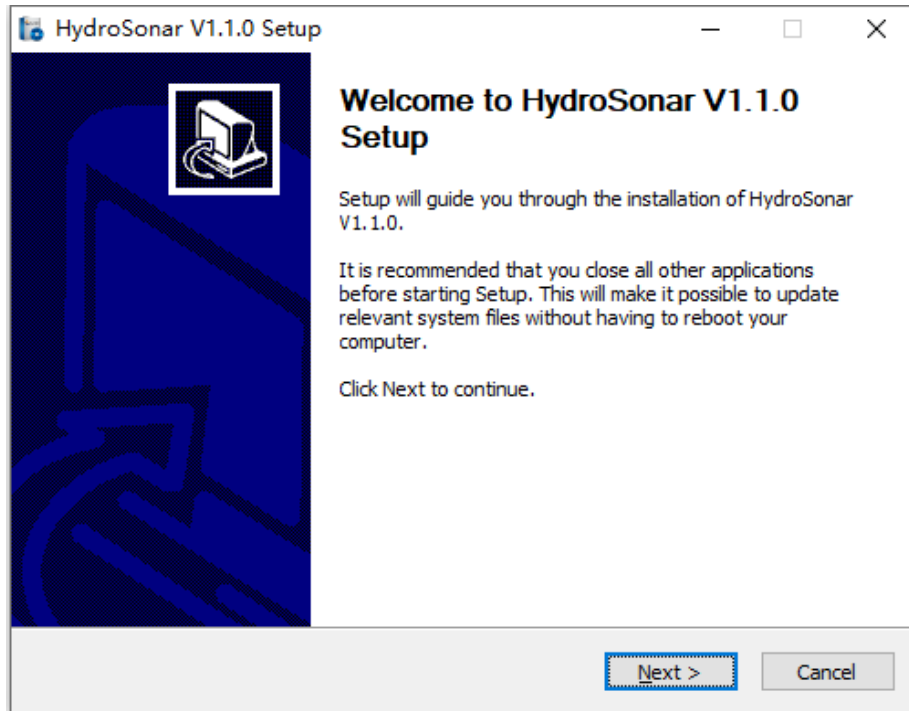
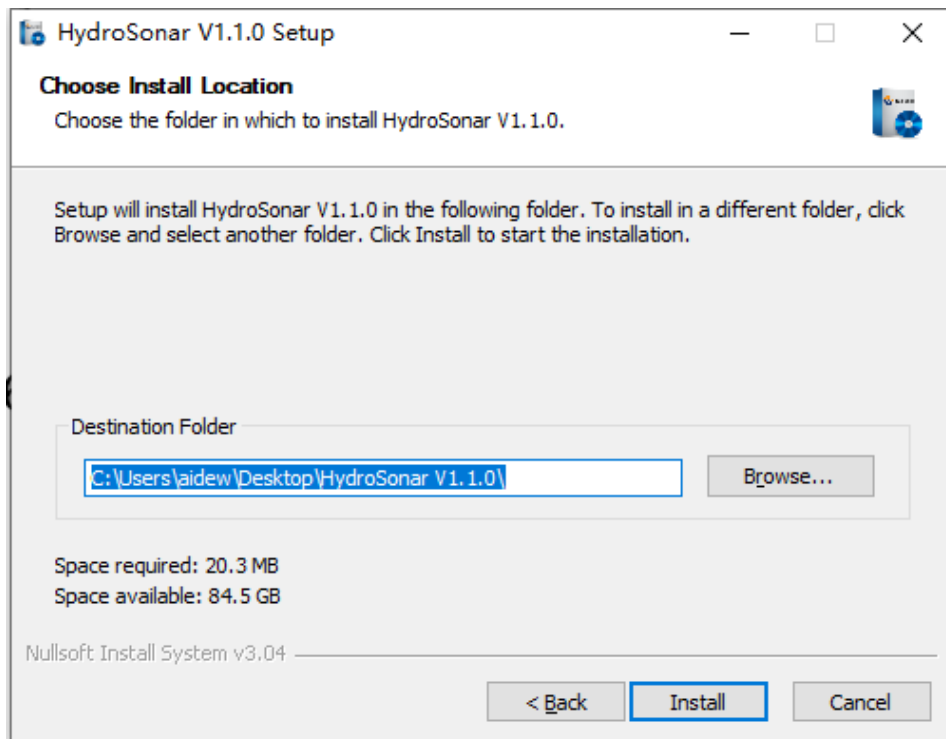

Figure 6.1 HydroSonar Installation Guidance
Figure 6.2 Installation Path
- (1) Run "HydroSonarSetupChs.msi" to enter installing dialog box as shown in Figure 6.1.
(2) Click the "Next" button in Figure 6.1 to enter the Installation Guidance dialog box and select the installation path as shown in Figure 6.2.
(3) Click "Next" in Figure 6.2 to pop up the installation confirmation interface, then click "Next" one more time finish the installation.